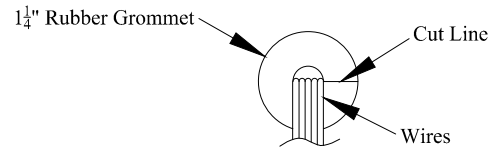

Figure 11: Rubber grommet.
2. Cut the 1¼" rubber grommets from the inner hole out (Figure 11).
3. Place the 1¼" rubber grommets around wires (Figure 11)